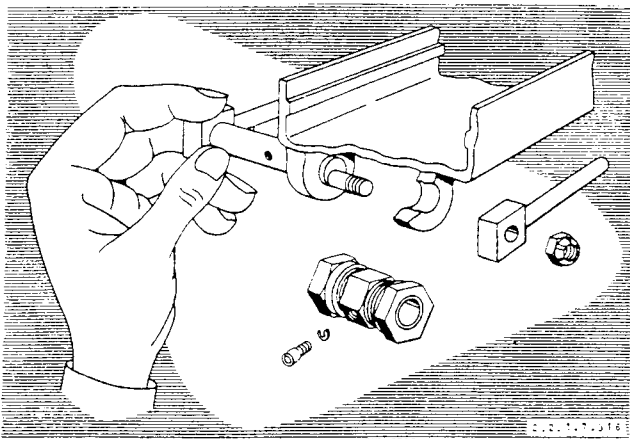

Figure 2-36. Slider Gun Mount Adjustment
- e. If gun is not properly aligned, loosen all four self-locking nuts on gun slider mount assembly on rear of gun (figure 2-36). Turn center nut until gun is properly aligned in elevation. Shift gun in azimuth until it is aligned on the target mark by screwing the two large self-locking nuts in one direction or the other.